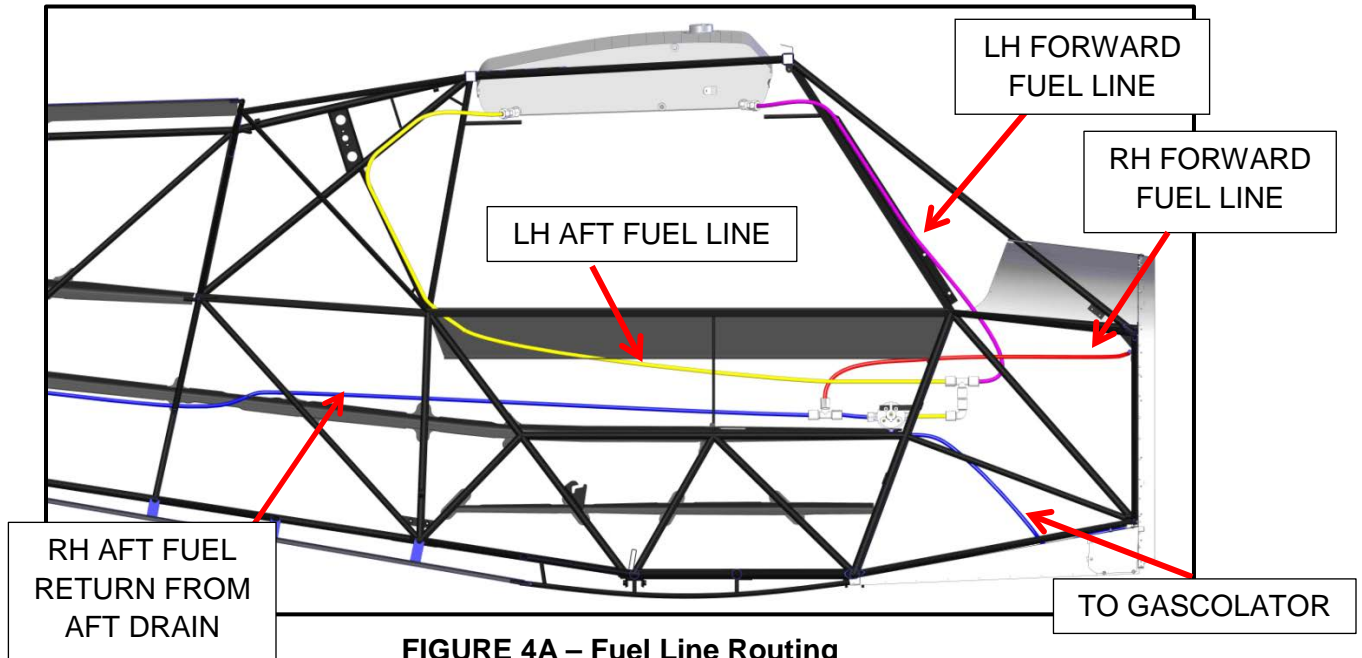
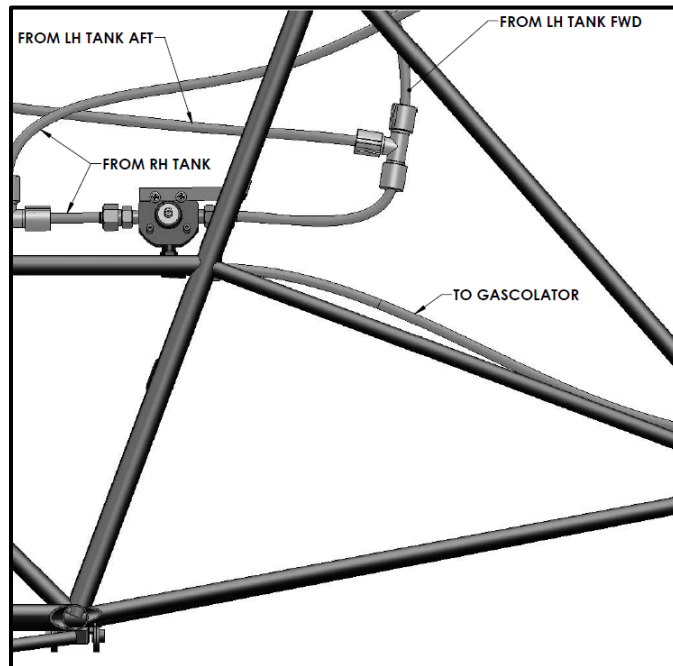

FIGURE 4A – Fuel Line Routing
FIGURE 4B – Alternate Fuel Line Routing
15. Figure 4A shows forward section of fuel line routing as previously installed. Older aircraft may have an alternate fuel line routing, as shown in Figure 4B.